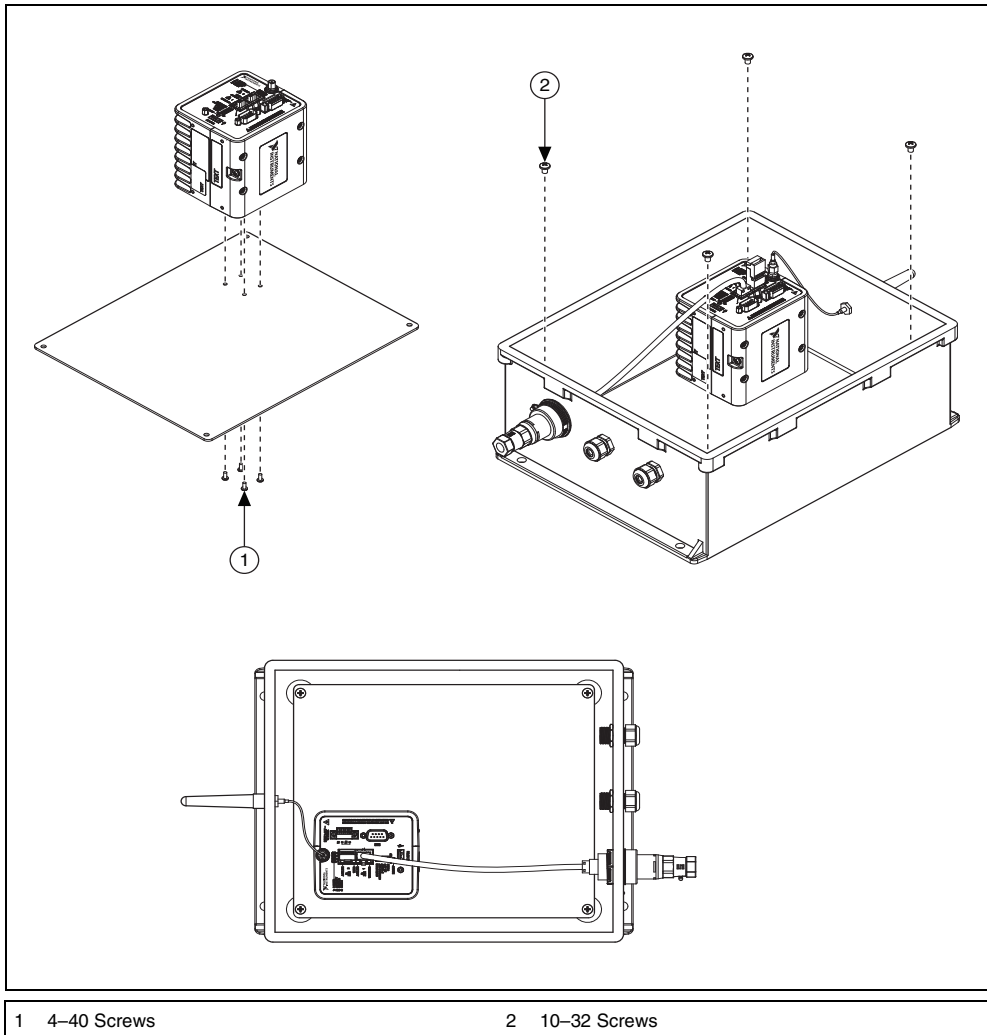

Figure 3. Installing the NI 9792 Real-Time Gateway
4. Reinstall the internal mounting plate with the attached NI 9792 WSN Real-Time Gateway into the enclosure using the 10–32 screws as shown in Figure 3.
Tip NI recommends installing the NI 9792 WSN Real-Time Gateway before mounting the NI WSN-3295, as shown in Figure 3.